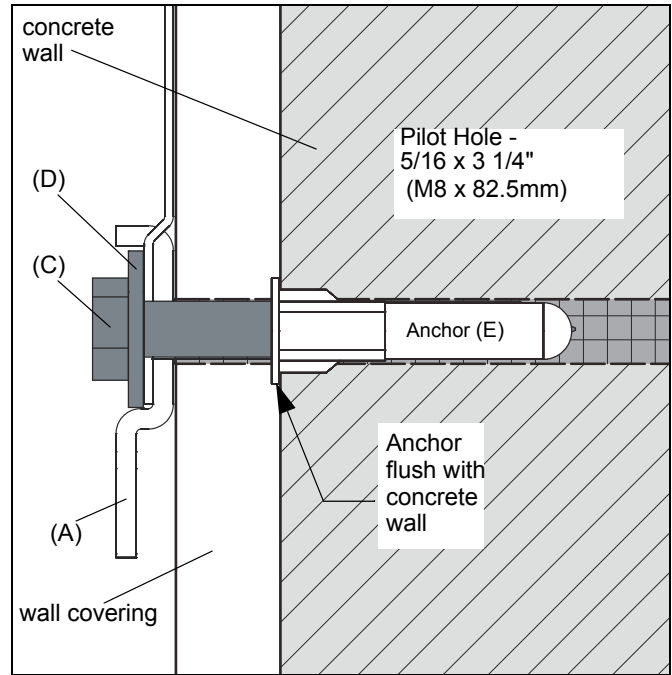

Figure 6
4. Install four or six concrete anchors (E) into drilled holes. Use a hammer to tap anchors into holes. (See Figures 6 and 7)
IMPORTANT ! : The anchors must be installed through any wall covering until flush with the concrete wall. (See Figure 6)